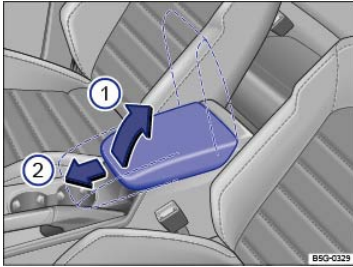

Fig. 51 Front center armrest.
To *raise* the center armrest, push the release button, pull the armrest up, and latch upward in the direction of the arrow ⇒ Fig. 51 ①.